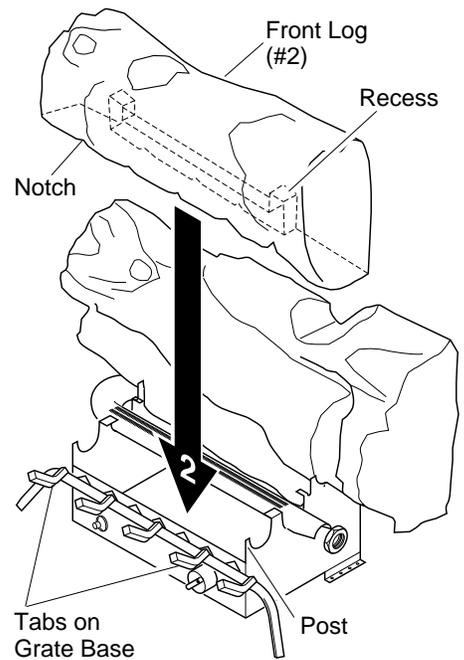

Figure 36 - Installing Front Log
- Locate the notches on the underside of the front log (#2). Also notice the recesses on the back of log #2. Slide the notches over the tabs on the grate base and the front posts into the recesses on the back (see Figure 36).